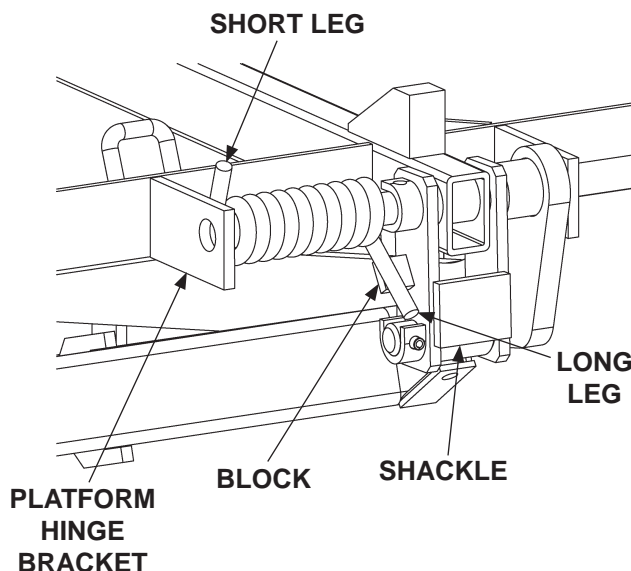

FIG. 21-2
5. Install the torsion spring as shown in (**FIG. 21-2**). Make sure the long leg of the spring is resting against the block on the shackle (**FIG. 21-2**). Make sure the short end of the spring is positioned as shown in **FIG. 21-2**.